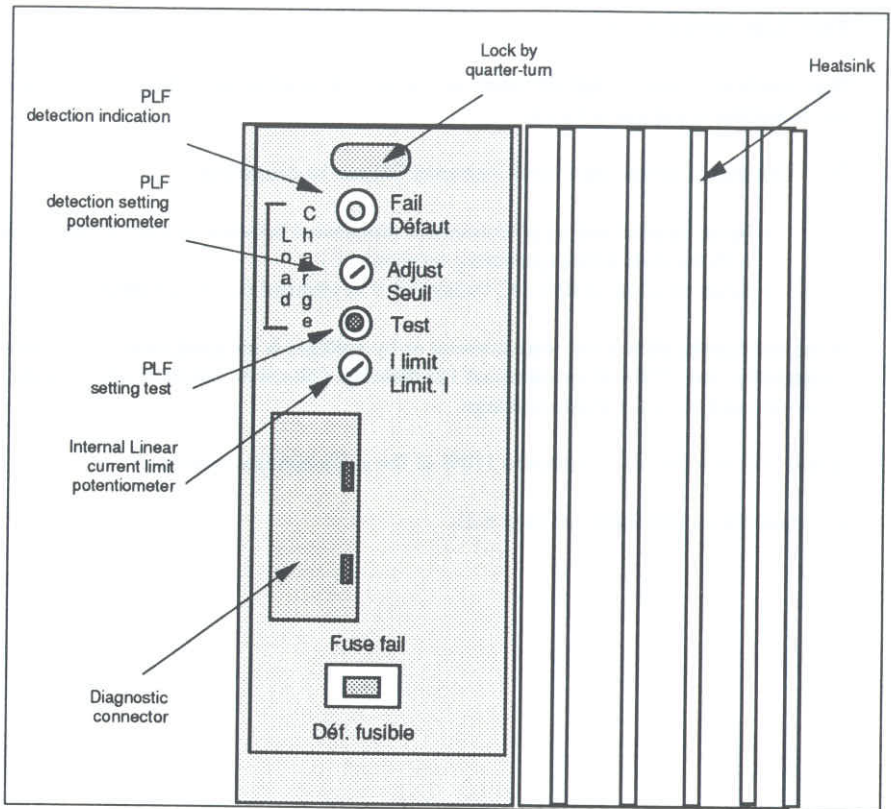

Figure 4.5 Front fascia of a 461 series unit
- Turn the partial load failure detection setting potentiometer completely (see figure 4.5) anti-clockwise and check that the indicator light does not light up.